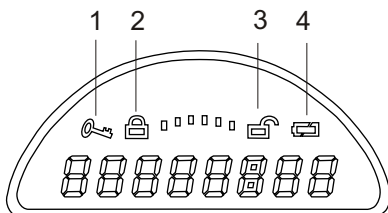
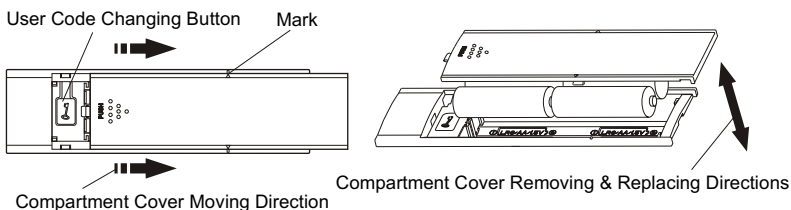

Figure 2
Figure 5 Removing the Compartment Cover
- ☐ Take out four AA batteries from inside the safe. Locate the battery compartment in the back of the door and remove the compartment cover (Figure 5, P.4 in User's Manual). Install the batteries into the compartment as per polarity marks indicated inside the compartment and replace the cover.
2. Press the 'Ⓢ' button and the prompt '🔑' will be displayed on the LCD screen (See Figure 2).
4. Locate the battery compartment in the door back. Remove its cover according to Figure 5. Press the user code changing button. The prompt '🔑' (See Figure 2) will be displayed on the LCD screen with two beeps to indicate that it's in process of changing the user code. ***(Please replace the battery compartment cover after completion of changing the user code.)***
Enter your user code and the number you entered will be displayed on the LCD screen (See Figure 2).
Press the '#' button and the prompt '🔑' will be displayed on the LCD screen (See Figure 2).
Remove battery cover per Figure 5 and replace with new batteries properly. Place back battery cover.